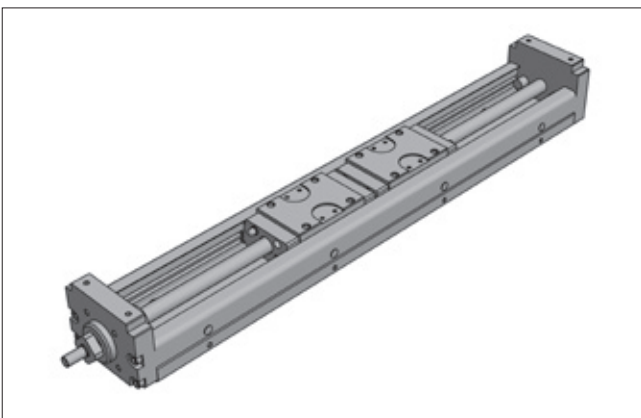

Figure 5.11 __ AXBG – profile with carriages
- U - shaped steel profiles as base material with internal carriages (Figure 5.11)